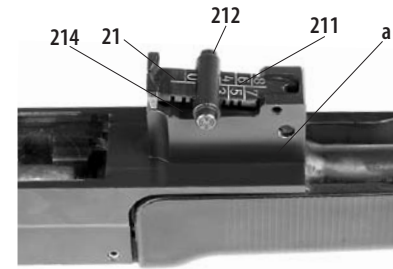
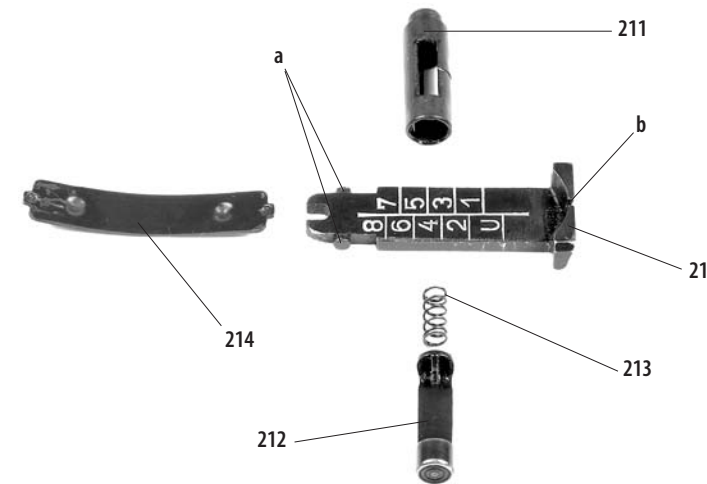

Fig. 9 Rear sight assembly
Fig. 10 Rear sight /exploded view/
**Rear sight** (Fig. 9) enables the needed angles of the elevation to be set; the rear sight is fixed in the rear sight base. Rear sight 21 (Fig. 10) consists of rear sight slide 211, rear sight plunger 212 with spring 213 and rear sight feather 214.